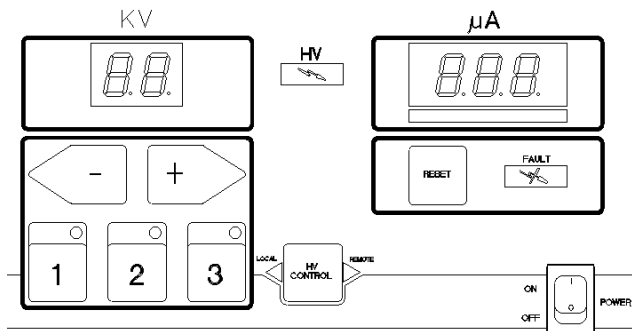

Figure 3: 9060 Operator Interface
The 9060 Controller shown in Figure 3, has a simple operator interface consisting of 7 LEDs (Light Emitting Diodes), one (1) power switch, seven (7) buttons, one (1) current LED bargraph, and two (2) screens containing seven-segment displays.
This button, shown in the center of Figure 3, is **not used** to perform mode changes. It is **reserved** for future use. The unit defaults to LOCAL mode. To enter REMOTE mode, a remote I/O signal input, local/remote mode selection, indicates when the unit should be in REMOTE mode. When this remote I/O signal is active, the unit will be in REMOTE mode, otherwise the unit will be in LOCAL mode.